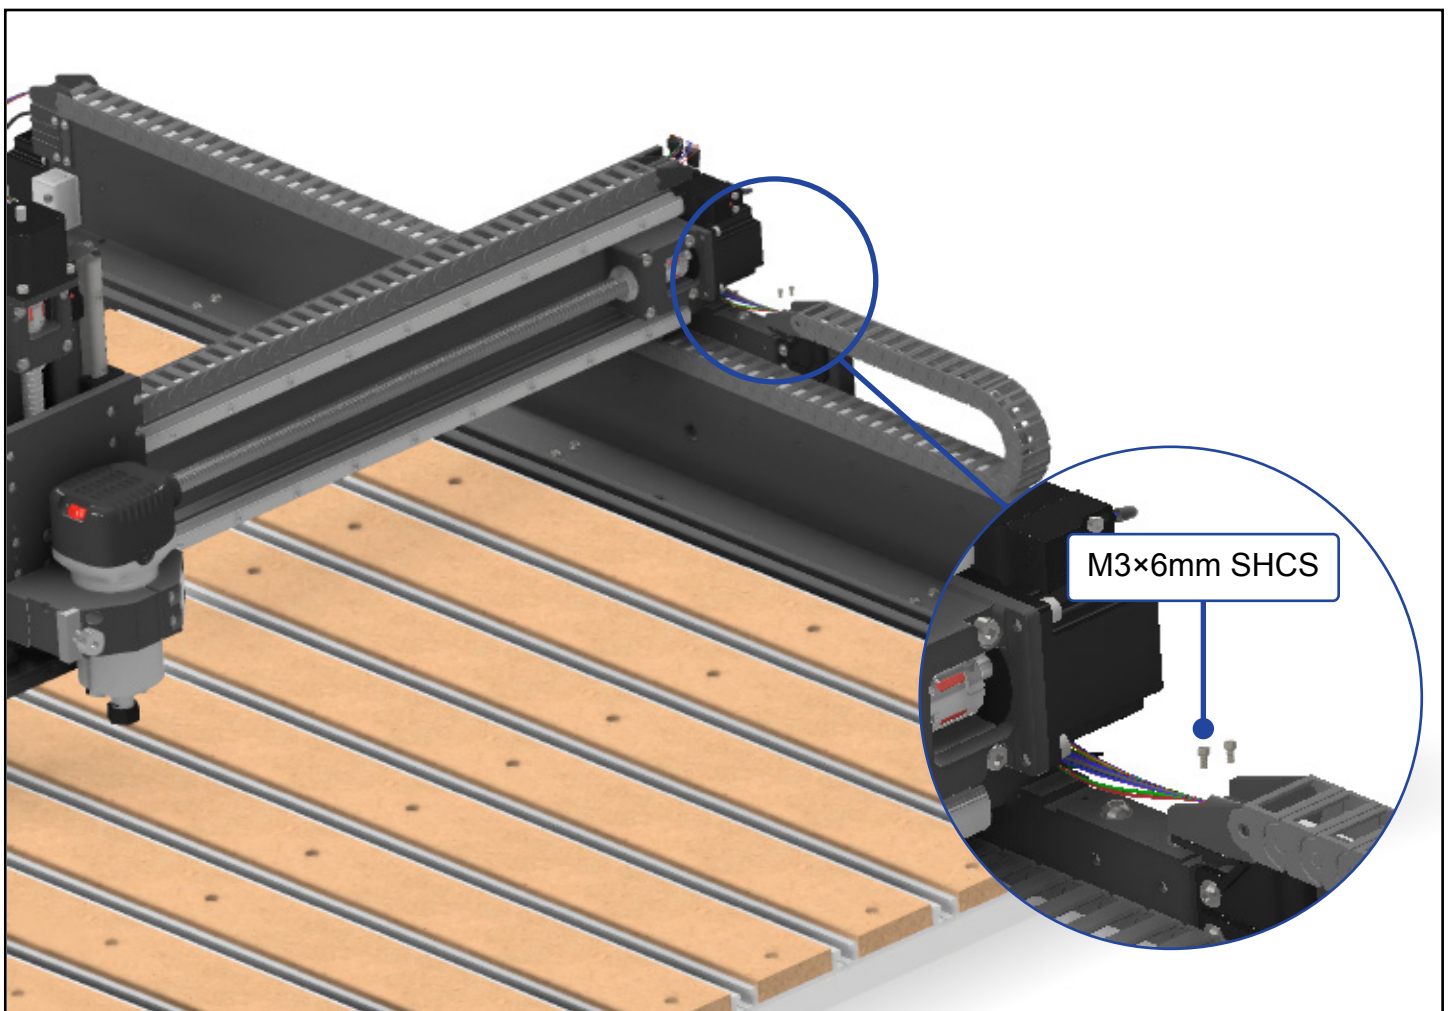

Figure 4-2
4. Curl the head of the wiring harness up so that it rests on the bracket on the back of the Y-Right carriage plate. See **Fig. 4-2**.
5. Use a 2.5mm hex key and two (2) M3×6mm SHCS to secure the drag chain head to the bracket. Fully tighten. See **Fig. 4-2**.